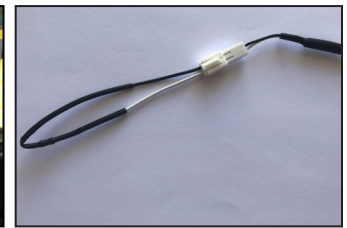

Figure 31 - Installed Resistor
3. Add a resistor to the cascade communication cable of the last unit. See Figure 31.